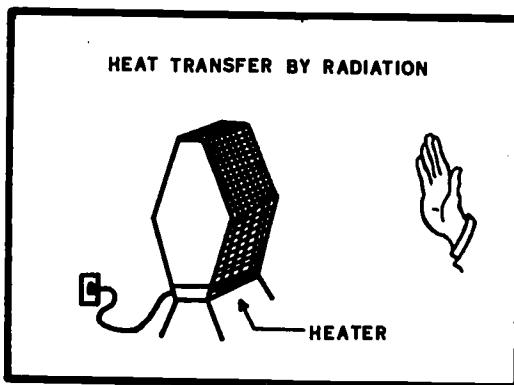

Fig 1-8. Heat transfer by radiation.
- **RADIATION:** The second method of heat transfer is called radiation. This is the transfer of heat by heat rays. The sun's rays heat the earth by means of radiant heat waves, which travel in a straight path without heating the intervening matter or air. It should be understood that they heat ONLY the surface which they strike, see figure 1-8.